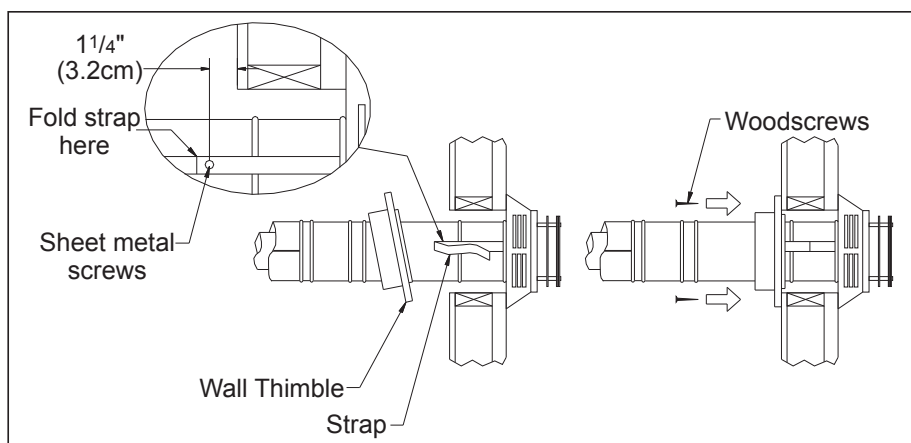

Figure 28: Installing Decorative Wall Thimble.
6. Slide the appliance and vent assembly towards the wall, carefully inserting the vent pipe into the cap assembly. It is important that the vent pipe extend into the vent cap a sufficient distance with a minimum of 1 1/4" (3.2cm) overlap. Secure the connection between the vent cap pipe and the vent cap by attaching the two sheet metal straps extending from the vent cap assembly into the outer wall of the vent pipe. Use the two sheet metal screws provided to connect the straps to the vent pipe. Bend any remaining portion of the sheet metal straps back towards the vent cap, so the decorative wall thimble will conceal it (see left image in Figure 28).
7. Slide the decorative wall thimble up to the wall surface and attach with the screws provided. Apply decorative brass or chrome trim if desired (see right image in Figure 28).